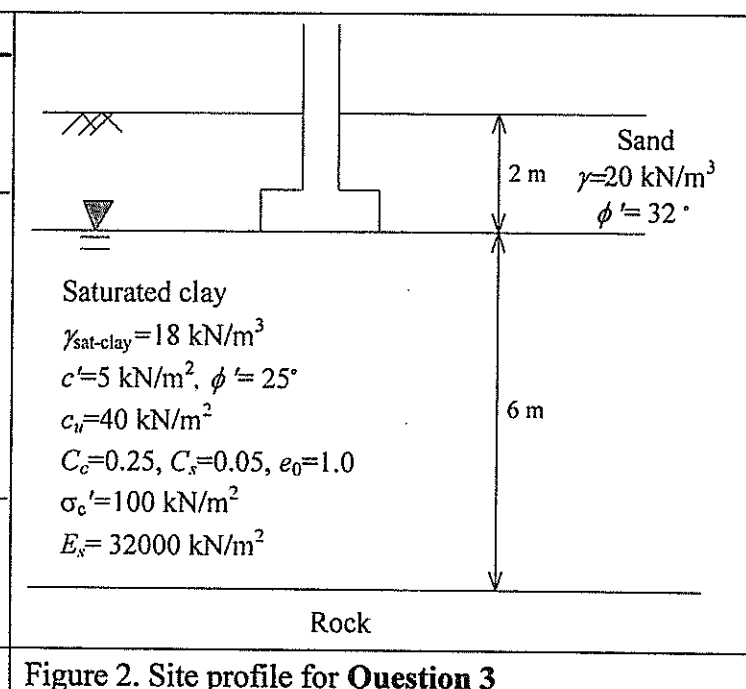

Figure 2. Site profile for Question 3
(3) (25%) A site is located at a 2m-thick dry sand layer underlain by an 8m-thick saturated clay. A 2m×2m footing is founded on the top of the clay layer, as displayed in Figure 2. The footing supports 400 kN column load (including the weight of the footing). Given that sand:  $\gamma_{\text{sand}}=20 \text{ kN/m}^3$ , drained friction angle  $\phi=32^\circ$ ; clay:  $\gamma_{\text{sat-clay}}=18 \text{ kN/m}^3$ , undrained shear strength  $c_u=40 \text{ kN/m}^2$ , drained shear strength parameters  $c'=5 \text{ kN/m}^2$  and  $\phi'=25^\circ$ , modulus of elasticity  $E_s=32000 \text{ kN/m}^2$ , preconsolidation stress  $\sigma_c'=100 \text{ kN/m}^2$ , compression index  $C_c=0.25$ , swell index  $C_s=0.05$ , and initial void ratio  $e_0=1.0$ , answer the following questions: